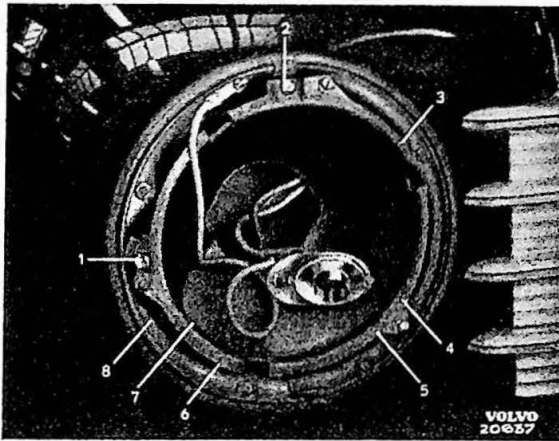

Fig. 13.
5. Loosen the adjustment screws (1 and 2, fig. 13) 8—10 turns. Unhook the springs (3—6)